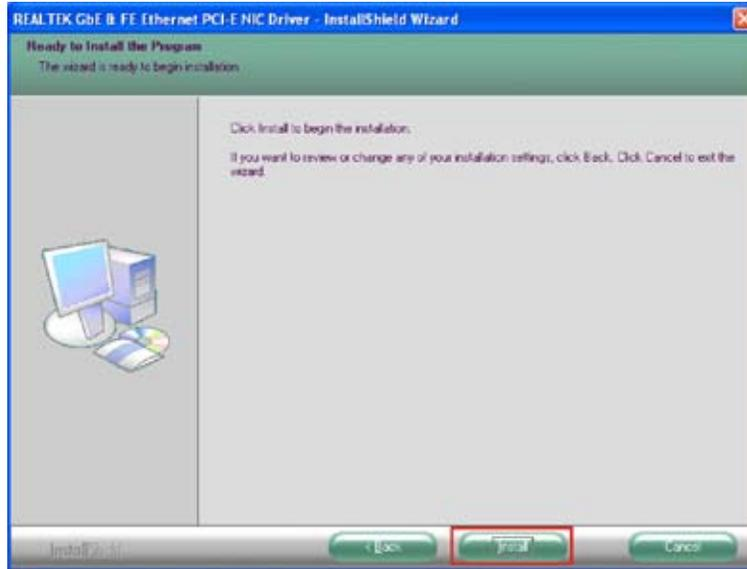

Figure 6-17: LAN Driver Welcome Screen
Step 40: The **Ready to Install** screen in Figure 6-17 appears.